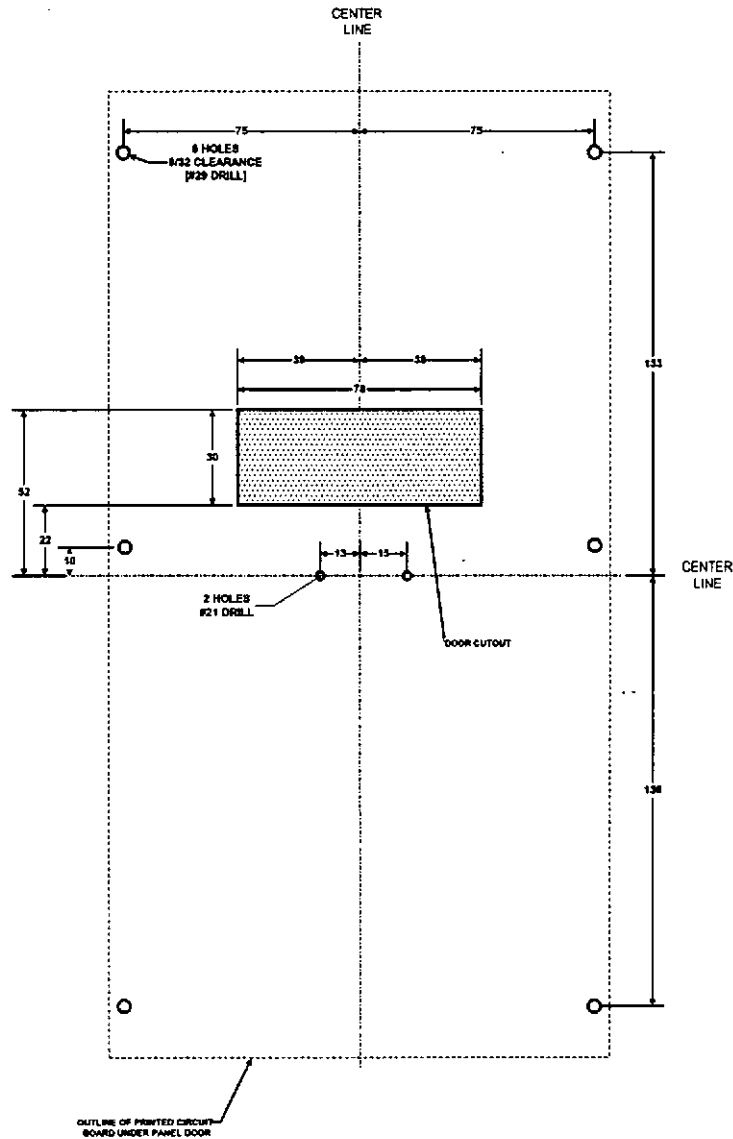

FIGURE 5
- The first method requires a special door cutout for the LCD display and LED's as shown in FIGURE 5. This mounting method requires the Lexan faceplate to be mounted directly onto the door of the transfer switch enclosure via its adhesive tape on the rear of the Lexan. The controller must be disassembled to mount on the door, then re-assembled.
Refer to FIGURE 5 for the TSC 800 faceplate mounting dimension information.